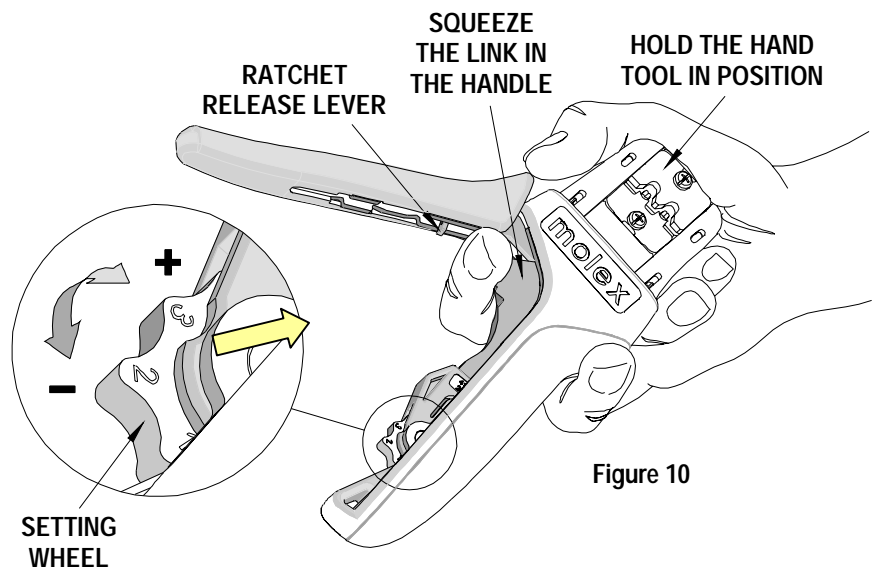

Figure 10
How to Adjust Tool Preload (See Figure 10)
1. Hold the hand tool in the palm of your hand as shown in Figure 10. Using the index finger squeeze the link towards the top of the hand tool frame. This will release the preload adjustment wheel.
2. Rotate the setting wheel counter-clockwise (CCW) to increase handle force. The numbers will display higher. To decrease handle force rotate the setting wheel clockwise (CW).